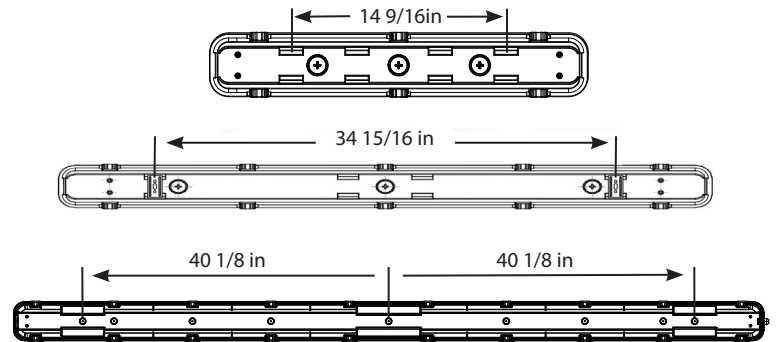
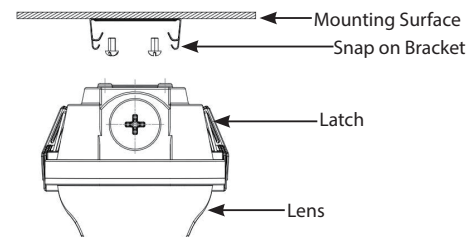
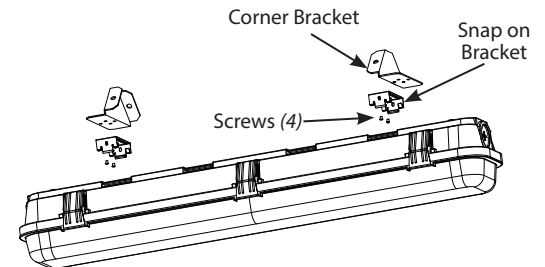

Fig. 1
Fig. 3
Fig: 5
1. Use appropriate mounting hardware (*not supplied*) to secure the **Snap on Brackets** to mounting surface. Refer to recommended **Snap on Bracket** spacing in Fig. 1 for SEAL 2ft and SEAL 4ft & 8ft.
WARNING: Mount Snap on Brackets symmetrical about the center as shown in Fig. 1. Snap on Brackets must be aligned with each other to secure Housing.
8. Snap **Housing** on **Snap on Brackets** as shown in Fig. 3.
1. Snap **Housing** on **Snap on Brackets** as shown in Fig. 3.
Ordered separately - Fig. 5 & 6:
1. Use appropriate mounting hardware (not provided) to secure the **Corner Brackets** (2) to the mounting surface as shown in Fig 5. **Corner Brackets** must face towards each other. Recommended **Corner Bracket** distance center to center is 14-13/25" for SEAL 2ft and 34-19/20" for SEAL 4ft & SEAL 8ft.
2. Secure (2) **Snap on Brackets** (supplied standard with Housing) to **Corner Brackets** (2) with **Screws** (4 provided).
3. Snap **Housing** on **Snap on Brackets** (2) as shown in Fig. 3, Page 1. Ensure that the **Housing** is secure on **Snap on Brackets** (2) onto the grooves on **Lens** as shown in Fig. 1, Page 1.